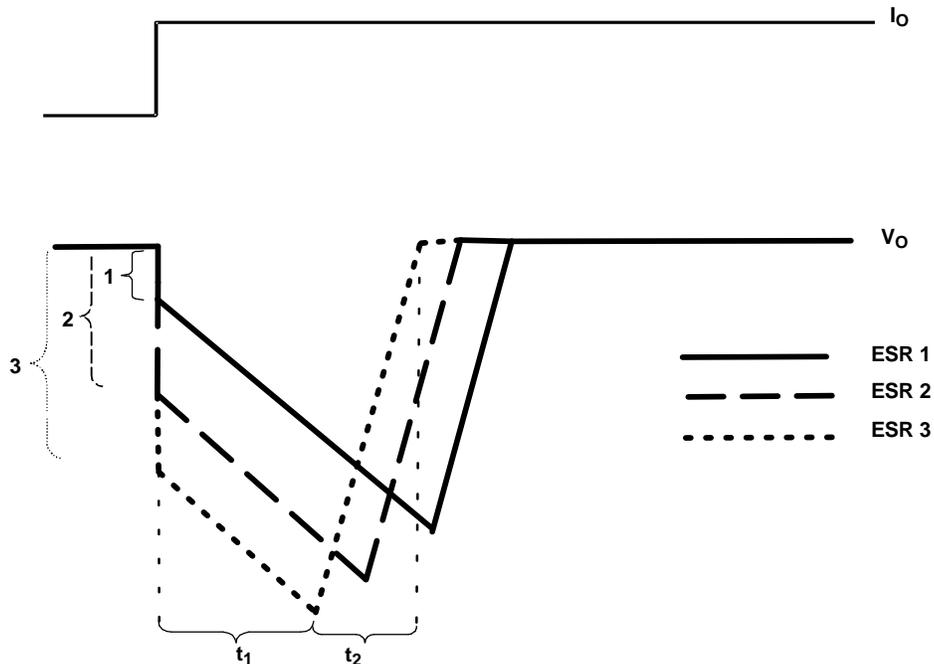

Figure 49. Correlation of Different ESRs and Their Influence on the Regulation of  $V_O$  at a Load Step from Low-to-High Output Current
- When  $C_O$  is conducting current to the load, initial voltage at the load will be  $V_O = V_{(CO)} - V_{ESR}$ . Due to the discharge of  $C_O$ , the output voltage  $V_O$  drops continuously until the response time  $t_1$  of the LDO is reached and the LDO resumes supplying the load. From this point, the output voltage starts rising again until it reaches the regulated voltage. This period is shown as  $t_2$  in Figure 49.